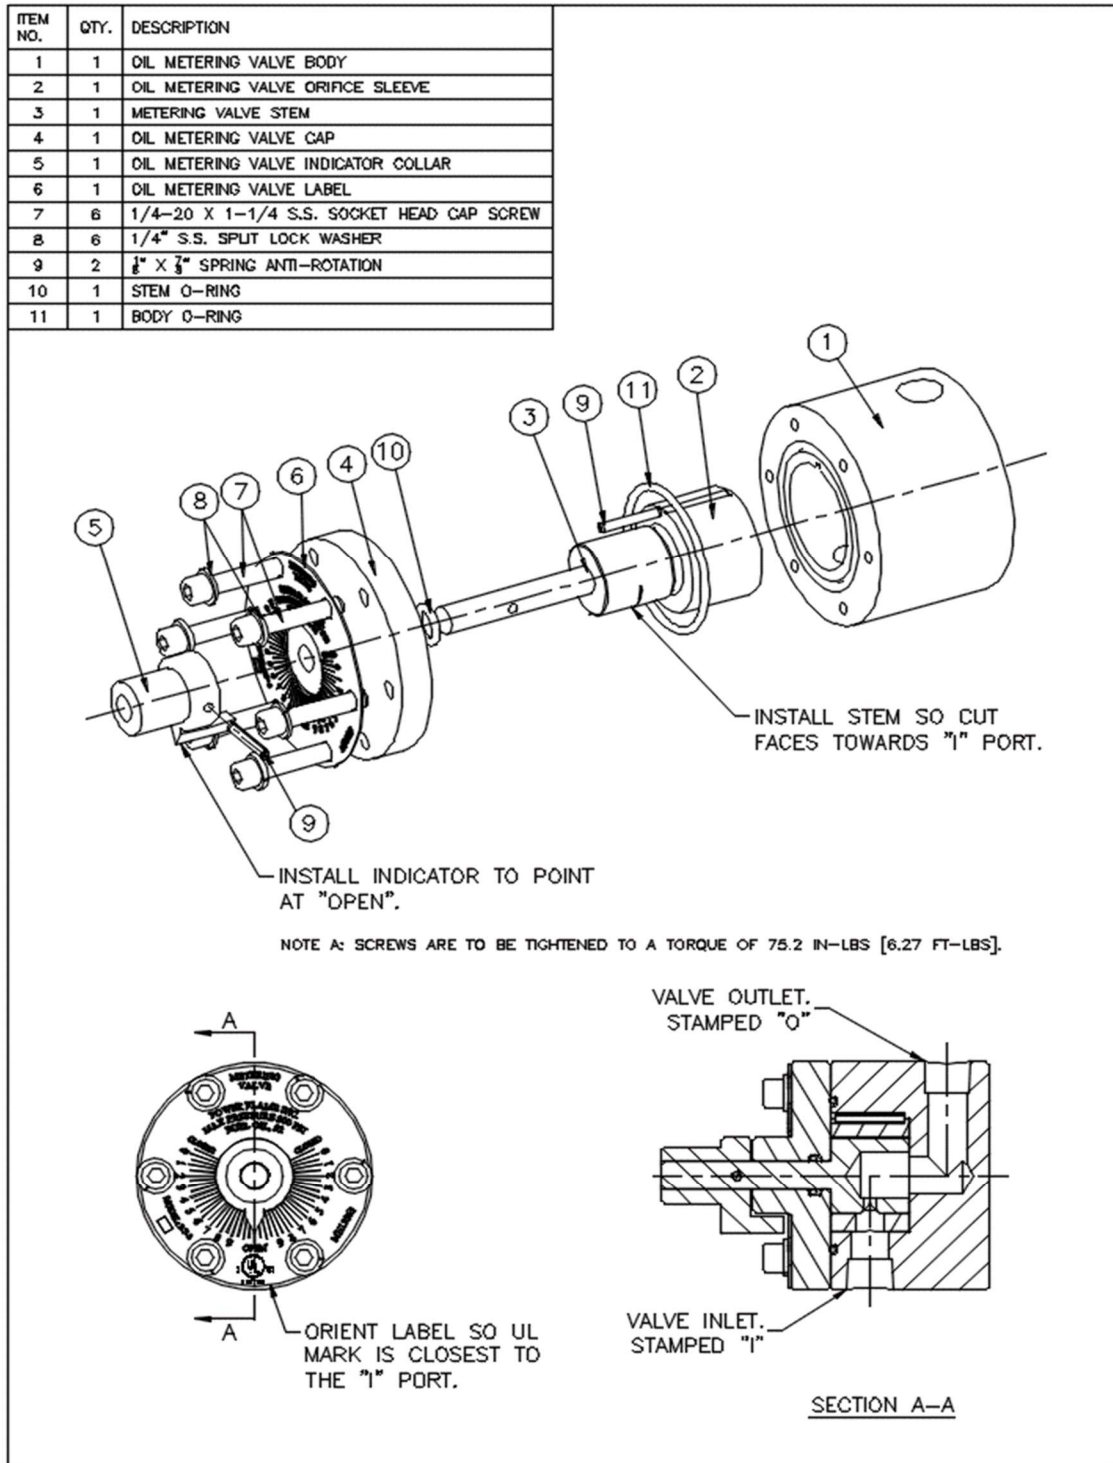

Figure 1. Typical K7 Valve Detail
1. Refer to Figure 1 below which details the valve to be cleaned. Typical components shown on the drawing are as follows:
- o. Very carefully, slip the large end of the stem into the sleeve while aligning the indicator with the inlet port of the body. This port will be marked with an “I” stamped into the valve body. Refer to Figure 1 for additional information.